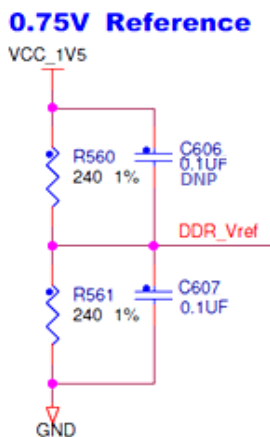

Figure 15. DDR3 0.75V reference supply
- A simple resistor divider is good enough to generate the 0.75V DDR3 reference (see Figure 15).